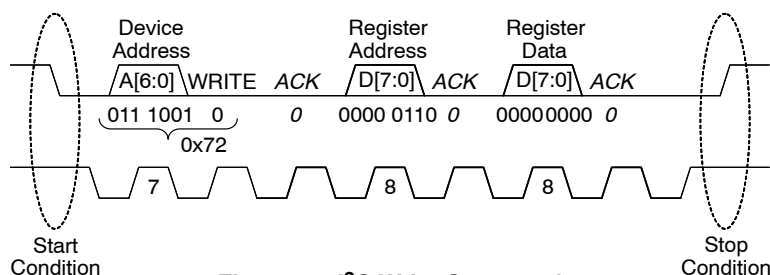

Figure 16. I2C Write Command
Figure 16 shows an I2C write operation. Write transactions begin with the master sending an I2C start sequence followed by the seven bit slave address (NOA1305 = 0x39) and the write(0) command bit. The NOA1305 will acknowledge this byte transfer with an appropriate ACK. Next the master will send the 8 bit register address to be written to. Again the NOA1305 will acknowledge reception with an ACK. Finally, the master will begin sending 8 bit data segment(s) to be written to the NOA1305 register bank. The NOA1305 will send an ACK after each byte and increment the address pointer by one in preparation for the next transfer. Write transactions are terminated with either an I2C STOP or with another I2C START (repeated START).